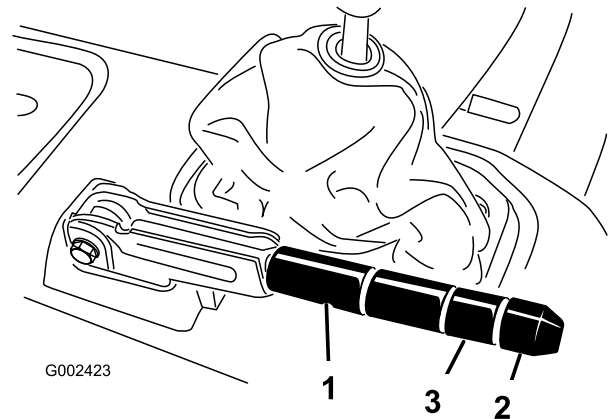

Figure 63
2. Loosen the set screw securing the knob to the parking brake lever (Figure 63).